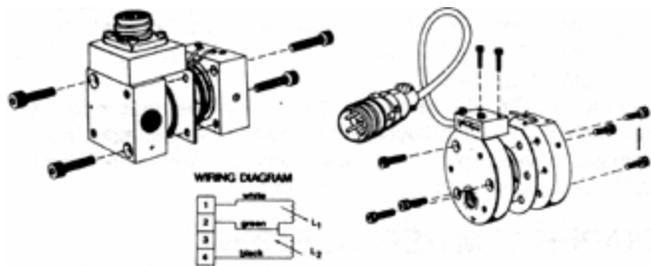

FIGURE 4. Typical Transducer Assemblies
1. Remove the transducer's body bolts on each side with a spline head, TORX or hex wrench. Spline or TORX wrenches are required for all models except DP22, DP303, DP360, and DP363. [See Figure 4: Typical Transducer Assemblies.]